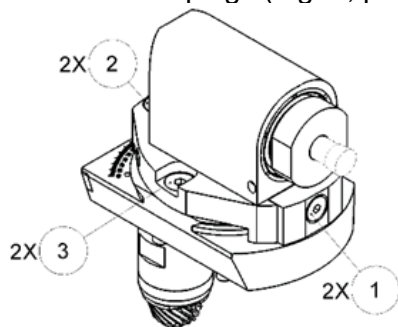
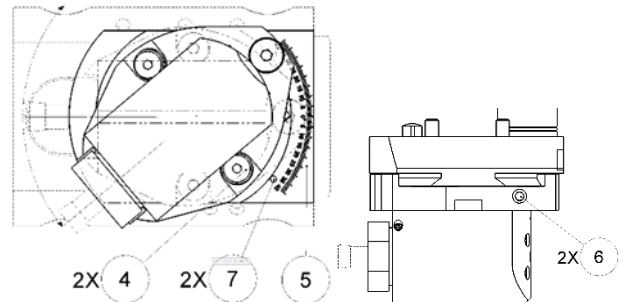

Figure 1
Figure 2
To fix the tool holder (fig.1, pos. 1), first remove the two plugs (fig. 1 pos. 3).
Slightly loosen the two screws (fig. 1 pos. 1 and 2). Then, using the adjustment screw (fig. 2, pos. 6) (this screw is adjustable from both sides of the tool holder), tilt the tool holder to 40° until you have access to the two screws (fig. 2, pos. 4).
Position the tool holder in the machine and tighten the two screws (fig. 2, pos. 4) to the recommended torque.
Screw in the two plugs (Fig. 1, pos. 3)
Adjust the angle with the adjusting screw, max. 16°, when adjusting to 15 degrees, use the pin in the bag. Place it in one of the two positions provided for this purpose (fig. 2 pos. 7) and press the swivel plate against it in order to guarantee the 15°. Adjust the offsets.